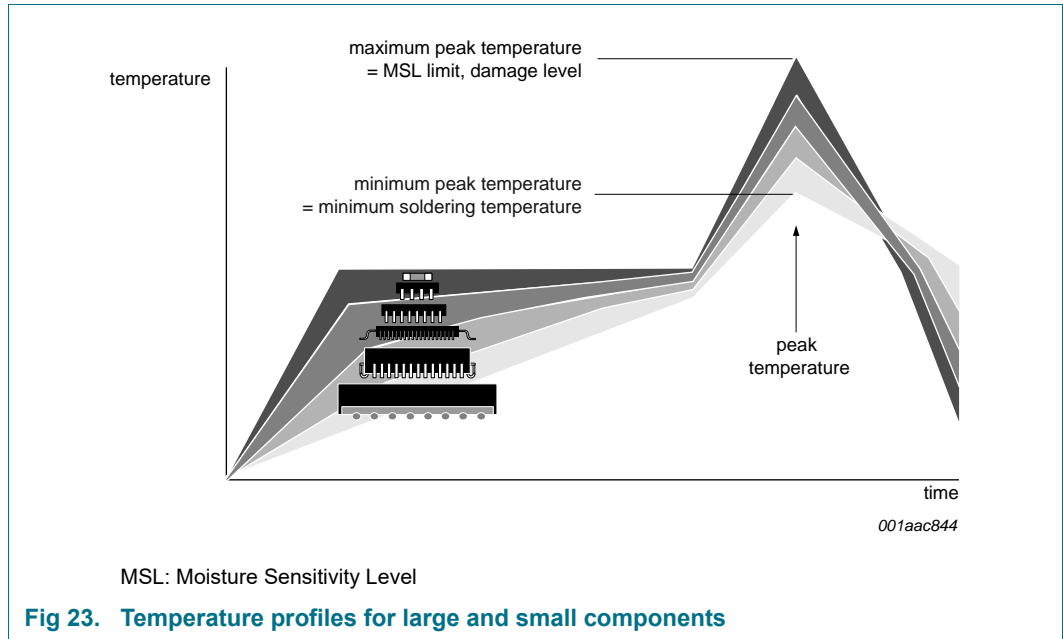

Fig 23. Temperature profiles for large and small components
- Lead-free versus SnPb soldering; note that a lead-free reflow process usually leads to higher minimum peak temperatures (see Figure 23) than a SnPb process, thus reducing the process window
Studies have shown that small packages reach higher temperatures during reflow soldering, see Figure 23.